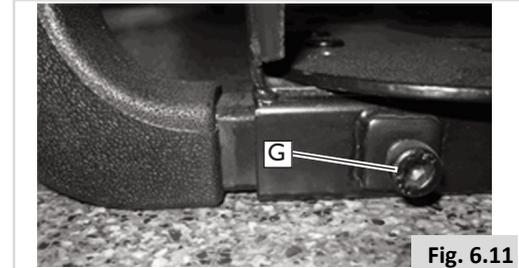

Fig. 6.11
- Locate the 2 armrest fasteners (G) on each side of the armrest receiver bracket, Figure 6.11.